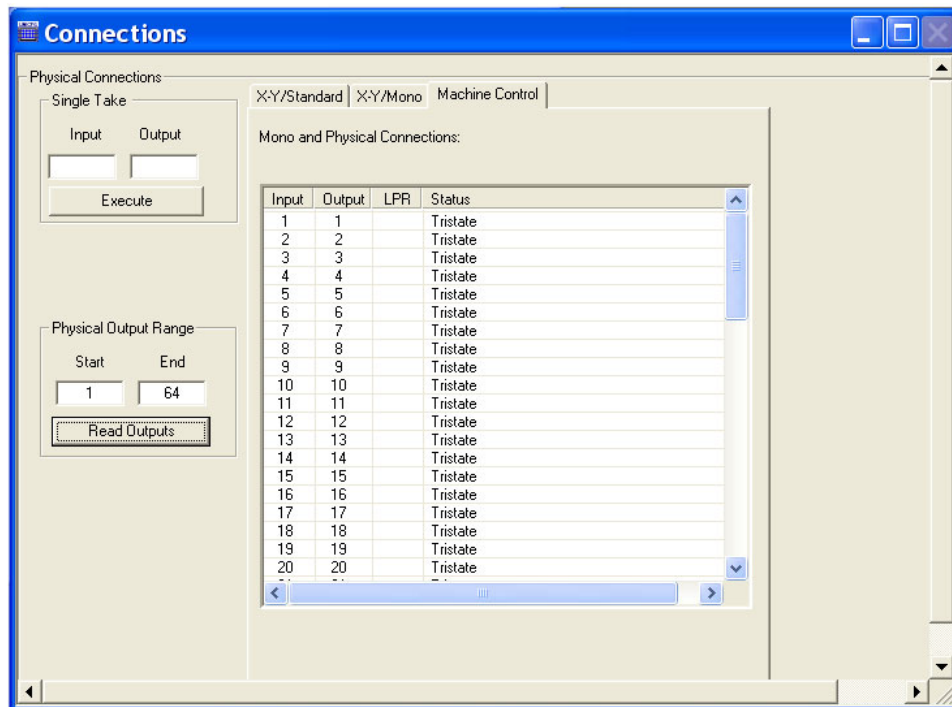

Figure 11-5. Example of Connections Window with Machine Control Tab in Front
- 4 Select the ‘Machine Control’ tab to bring it to the front, as shown in Figure 11-5.
- 4 From the menu bar, select 'Window > Connections'. The 'Connections' window appears, as shown in Figure 11-5.